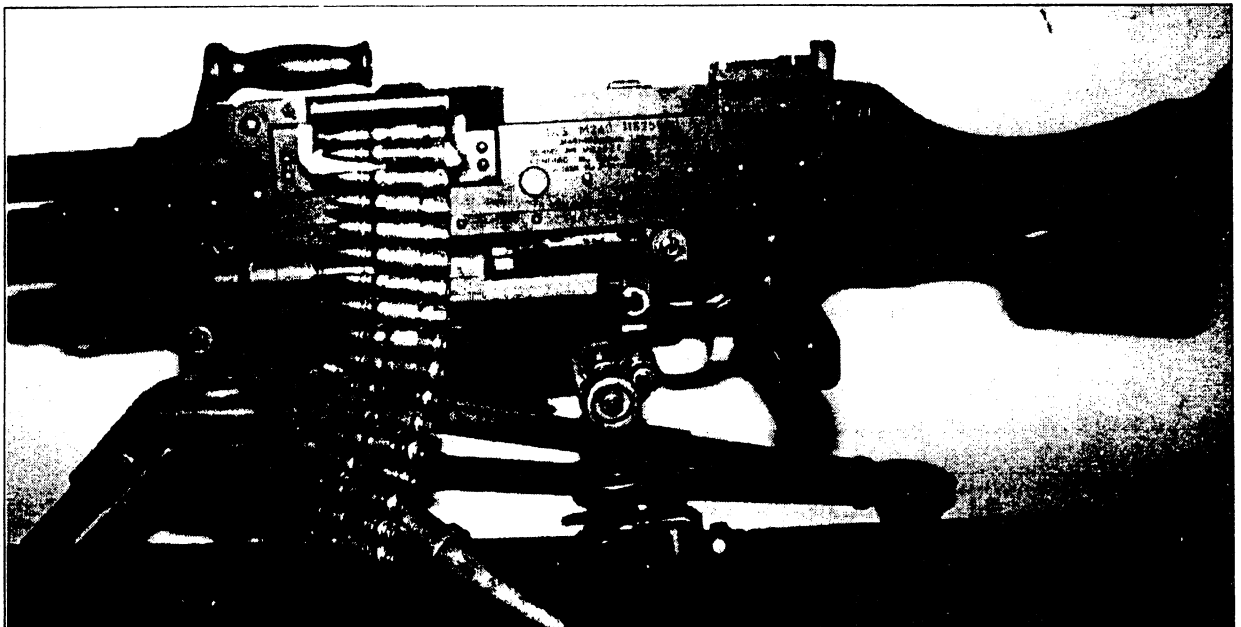

Fig 2-2. Fully loaded M240G machinegun.
4. While the team leader holds the belt in place, the gunner closes the feed tray cover and latches it firmly, without forcing it closed. **The machinegun is now in Condition 1 and fully loaded (see fig 2-2).**